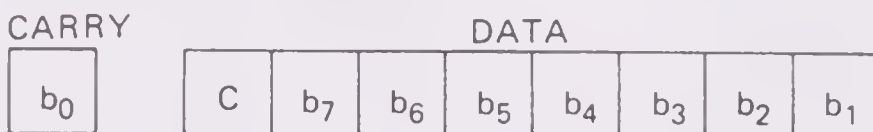

FIGURE E-1. 6502 shift instructions
**ROL** rotate left; shift the accumulator or a memory location left one bit as if bits 0 and 7 were connected through the CARRY (see Figure E-1).
**ROR** rotate right; shift the accumulator or a memory location right one bit as if bits 0 and 7 were connected through the CARRY (see Figure E-1).